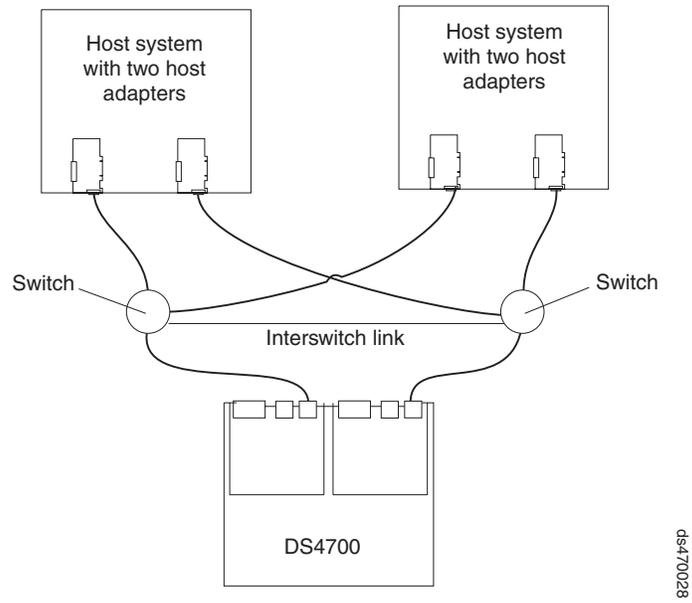

Figure 70. Example of a single SAN fabric configuration
- Single SAN fabric configuration, as shown in Figure 70 on page 85
In Figure 70 on page 85, the fibre channel switches are connected together via the inter-switch link (ISL) to form a single SAN fabric.